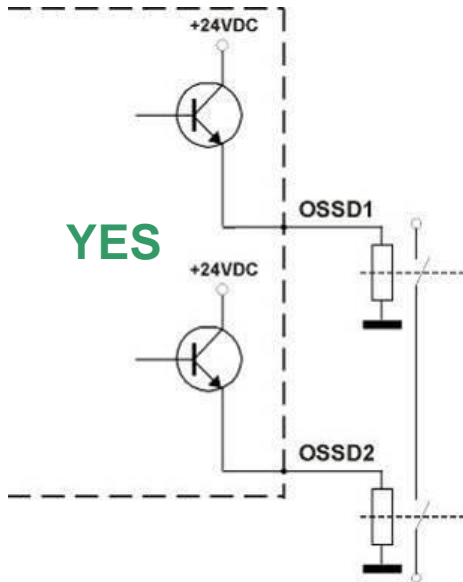

Fig. 14
- The OSSD1 and OSSD2 safety contacts cannot be connected in series or in parallel, but can be used separately (Fig.14). If one of these configurations is erroneously used, the device enters into the output failure condition (see cap.7 "Diagnostic functions").